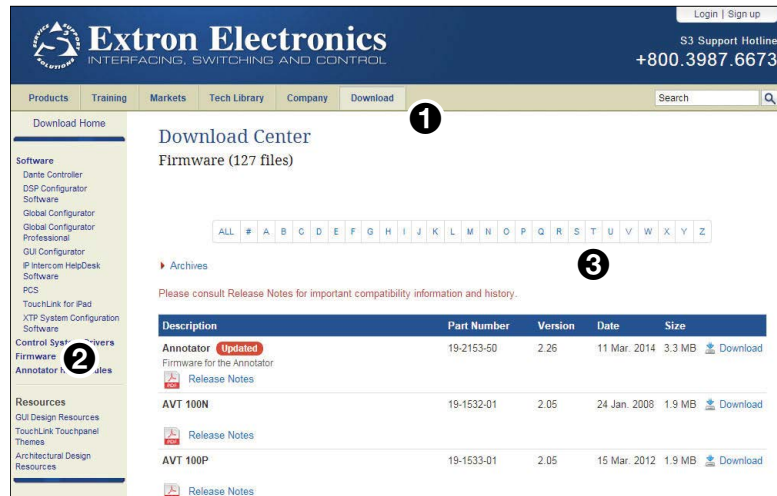

Figure 21. Firmware Download Center
2. On the Extron website, click **Download** in the menu bar along the top of the page (see figure 21, ❶).